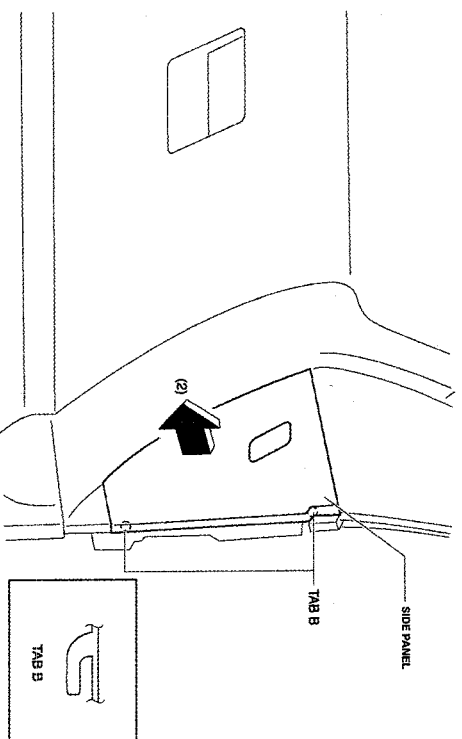

FIGURE 17
- 2.) PULL THE SIDE PANEL IN THE DIRECTION OF ARROW (2) WHILE DETACHING TABS B. (SEE FIGURE 17)